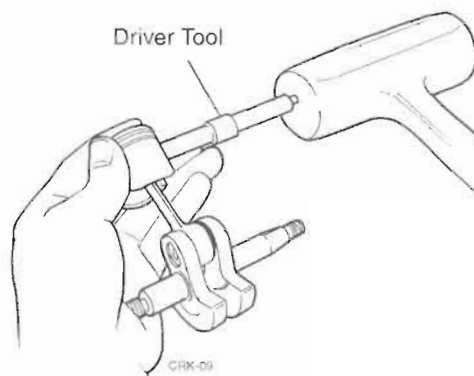

Figure 7.16 Using a Driver Tool
- While supporting the piston by hand, use a soft-faced hammer and an appropriate driver to install the pin in the piston pin bosses (Figure 7.16).